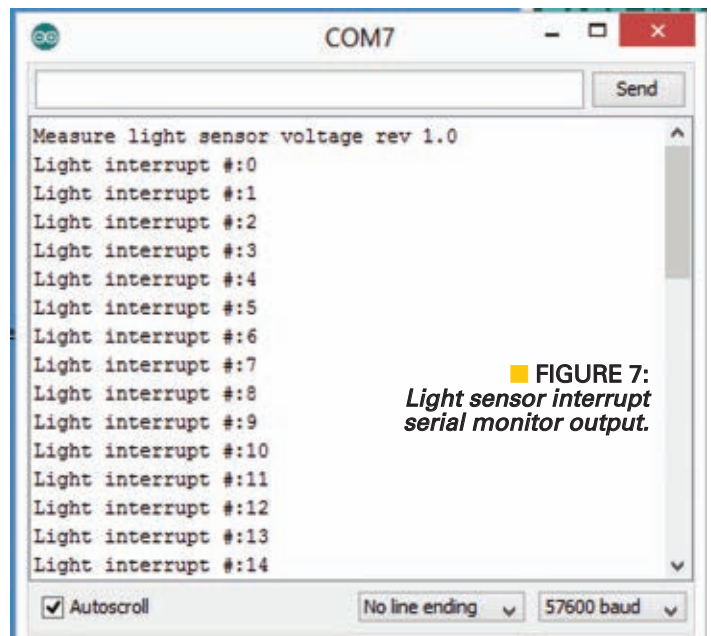

FIGURE 7:
- ❑ Make sure the board is lit by a bright overhead light, and then pass your hand back and forth over the sensor. You should see output similar to that shown in **Figure 7**.